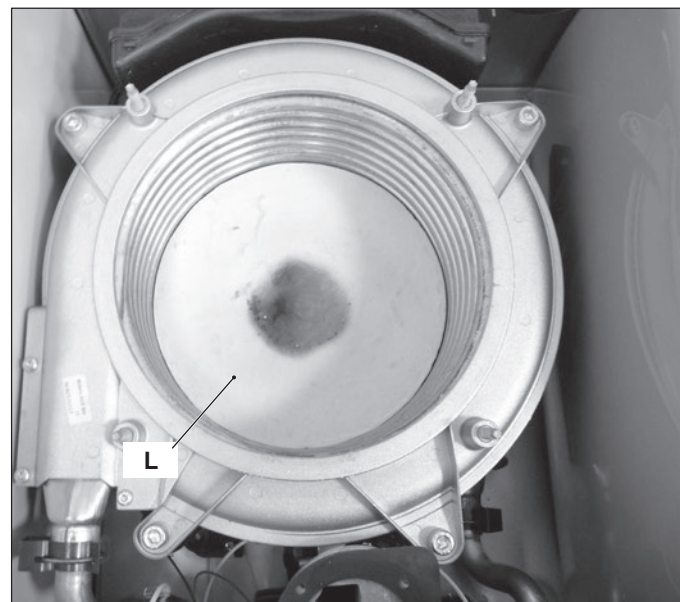

Figure 18.6
- 2 Remove the insulation "L" by pulling it towards the boiler front (Hung it with a screwdriver tip) (Figure 18.6).